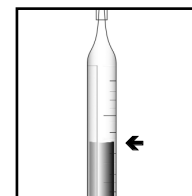

Figure 6
9. When the color of the liquid in the ampoule changes to **COLORLESS**, remove the ampoule from the Titrettor. Hold the ampoule, **tip pointed upward**, and read the scale opposite the liquid level (fig. 6). Results are expressed in ppm (mg/Liter) sulfite (SO3).